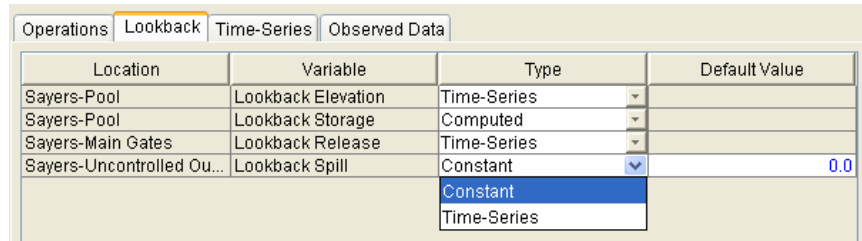

Figure 13.6 Alternative Editor--Lookback Tab
2. For each location or parameter, in the **Type** column double-click on the appropriate arrows to select either **Constant** or **Time-Series** from the dropdown list (as shown in Figure 13.6).